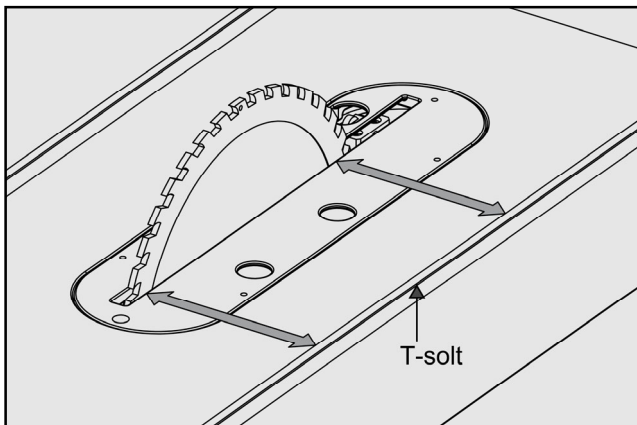

Fig. 23
1. The table T-slot must be aligned parallel with the blade. Using a combination square measure the distance from the back edge of the blade to the table T-slot. Pivot blade forward 180° and re-measure the distance using the exact same point on the blade. The difference between both measurements must be less than 0.2mm. Refer to **Fig. 23**.